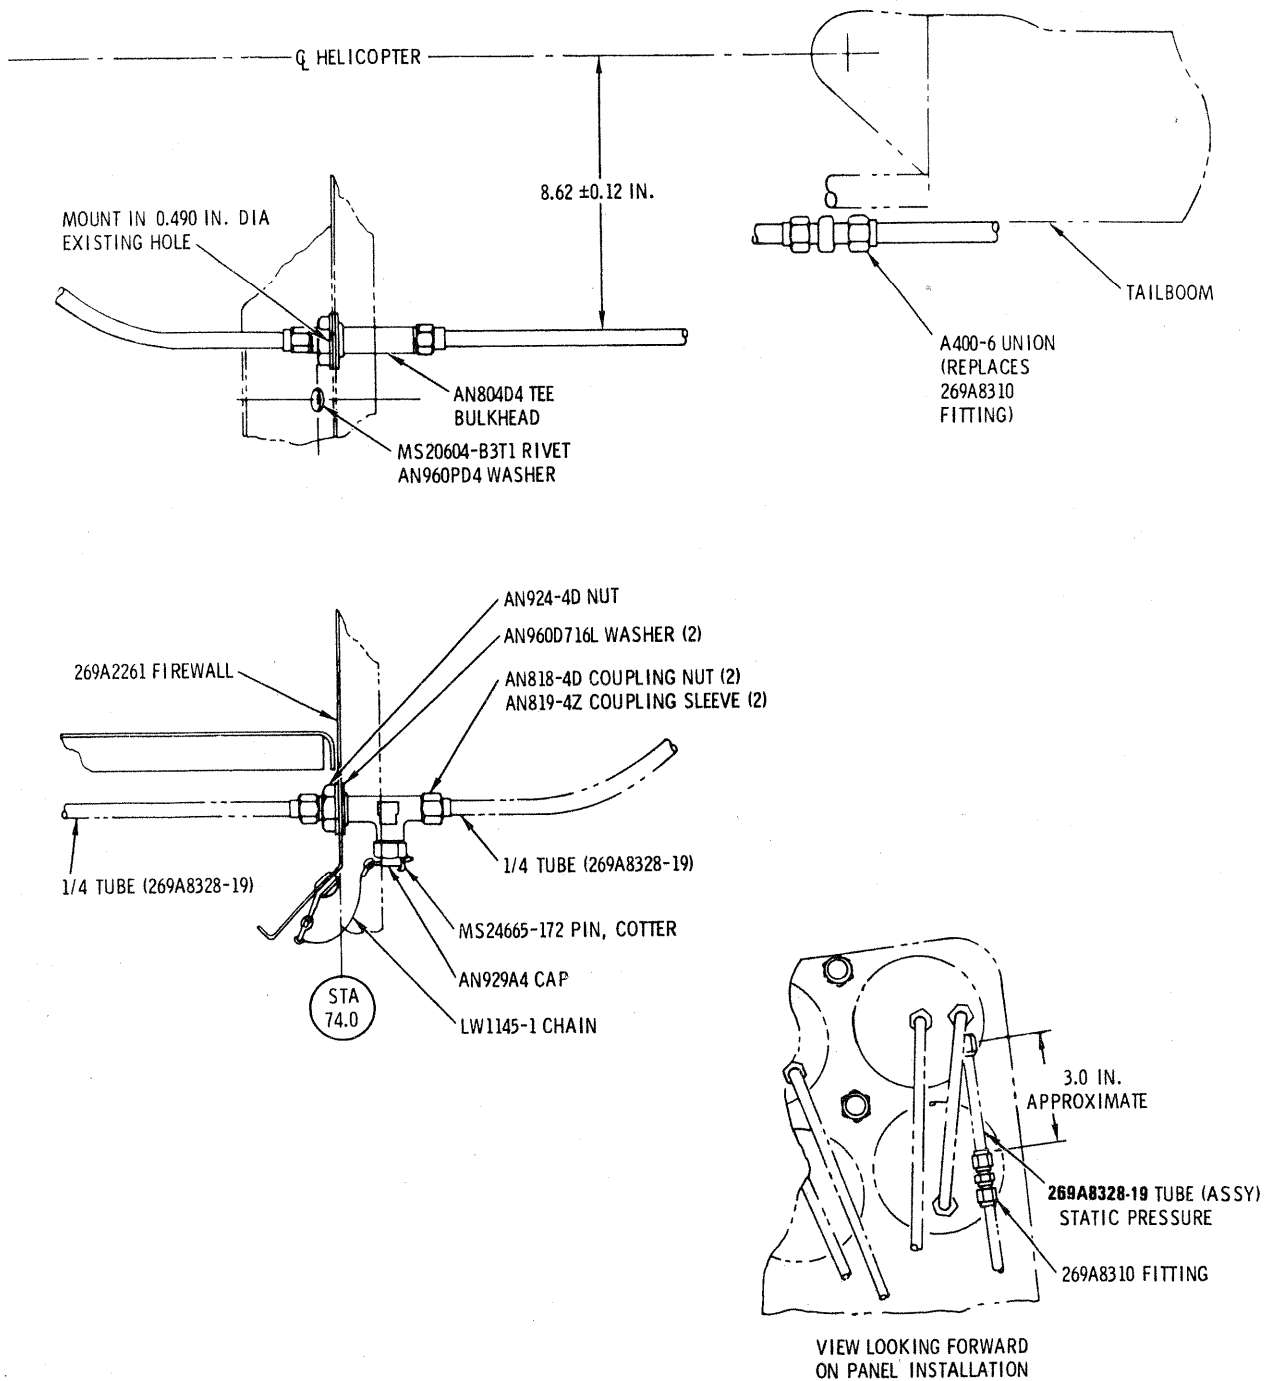

Figure 1. Static system - line restrictor and drainage fitting modification kits (M10094 and M10094-3)
e. Remove existing plug in lower LH fuselage firewall; install new bulkhead tee in 0.490-inch hole. (See Figure 1.)
- c. Remove existing 269A8310 restrictor fitting from static tube at forward end of tailboom; replace with new A400-6 union as shown. (See Figure 1.)